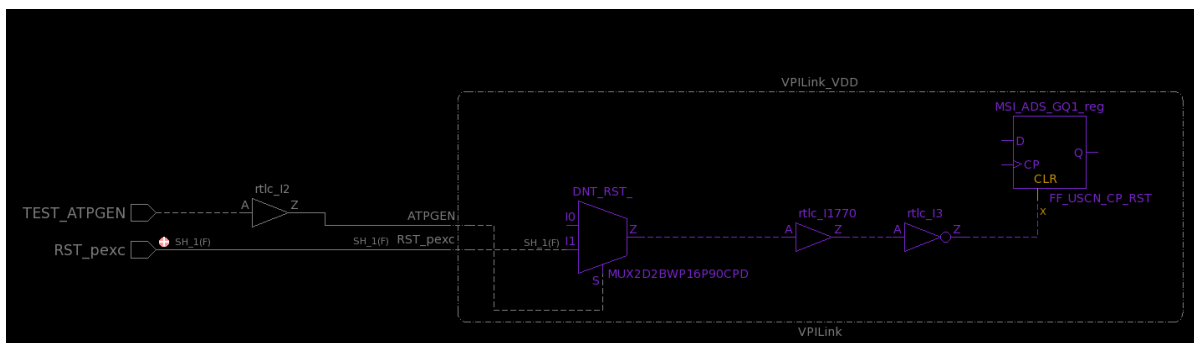

Figure 7. Async_07 violation DFF debug
Click on one of the F/F hyperlinks in the spreadsheet and click on Schematic (IS) or type the letter “i” (hot key) to open the incremental schematic. The MUX gate is shown as blocking the propagation of a constrained reset, Trace the MUS’s pin and you can find the “TEST_ATPGEN” port has’nt test mode value as Figure 7 shown. Use the below command to add test mode value. “-scanshift -capture -captureATspeed” means “TEST_ATPGEN” port is 1 logic when the design is in scanshift mode , stuck atpg capture mode or speed atpg capture mode.